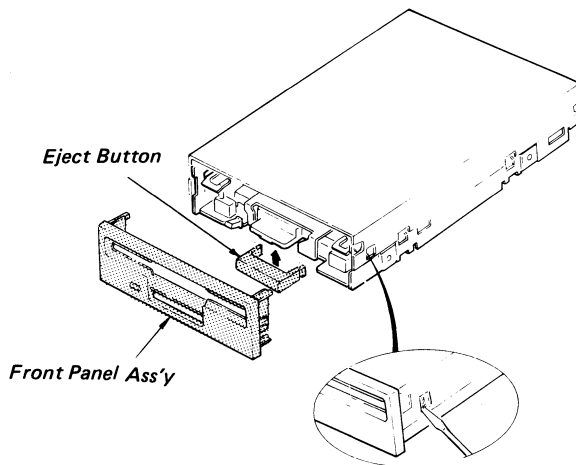

Fig. 4-1 Front Panel Ass'y Replacement
- Push slightly the plastic hinge located on each of right and left sides with ⊖ shaped screw driver through the square hole of upper cover, and pull it slowly toward you. (Refer to Fig. 4-1)
- Install the front panel ass'y. (Refer to Fig. 4-1)